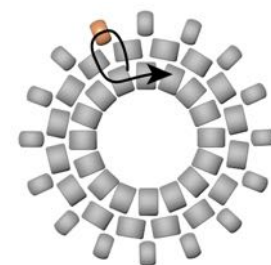

figure 4
4. When you reach the final bead in the initial circle, coming out of that bead, pass up through the cylinder bead from the first stitch, add one **15° round**, and go down through the cylinder bead from the previous stitch and through two cylinder beads in the initial ring of beads. You have now completed the final right-angle stitch in the circle. Double check to make sure there are sixteen 15°s along the outer edge of the structure. **(figure 4)**